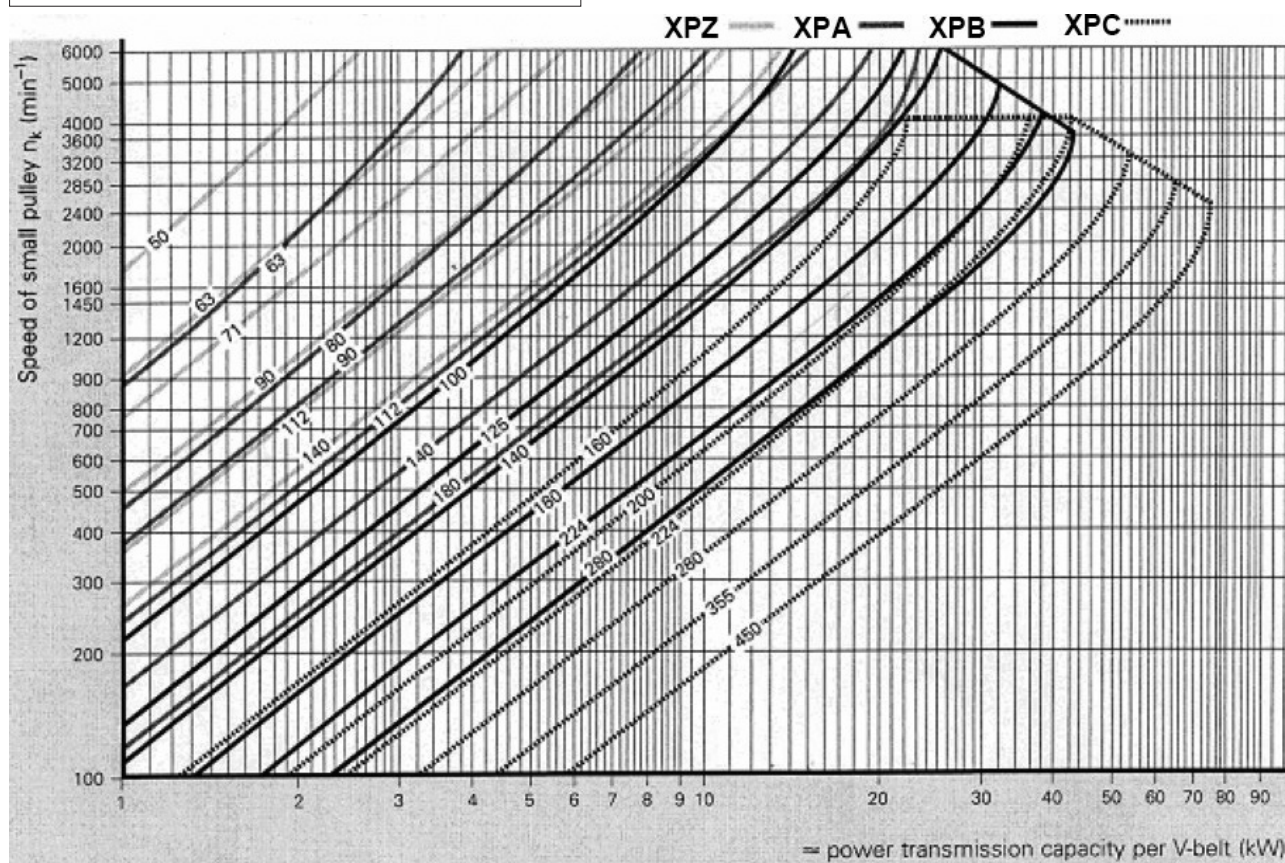
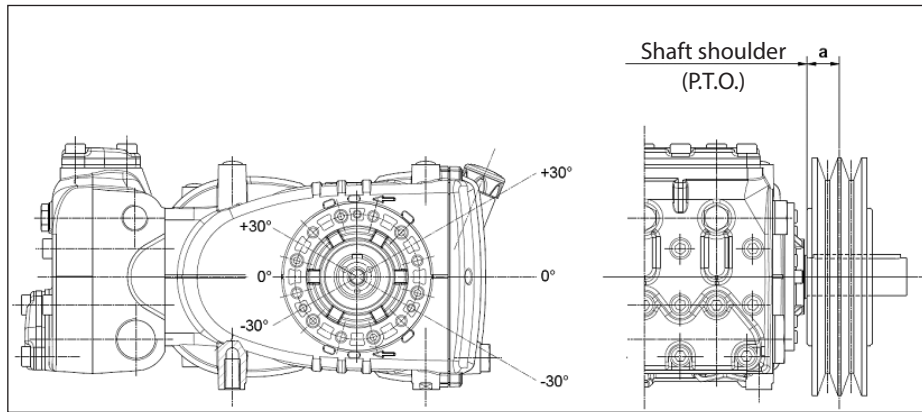

Fig. 7
Fig. 10
For this pump model, we recommend use of 2 XPB belts (16.5x13 serrated). Use an XPC profile only for long durations. Both the characteristics and transmissible power of each belt can be verified in the diagram in Fig. 7, in relation to the number of rpm normally declared by the manufacturer. Minimum duct pulley diameter (on pump shaft): ≥ 160 mm. The radial load on the shaft must not exceed 3000 N (value necessary for Layout definition). The transmission is considered adequate if the load is applied to a maximum distance $a=30$ mm from the shaft shoulder (P.T.O.) as shown in Fig. 10.
- b) Use high performance belts – for example **XPB** instead of **SPB** – as a lower quantity of belts for the same transmitted power may be necessary and a consequent shorter resulting distance compared to the shaft shoulder (P.T.O.) “a” of Fig. 10.